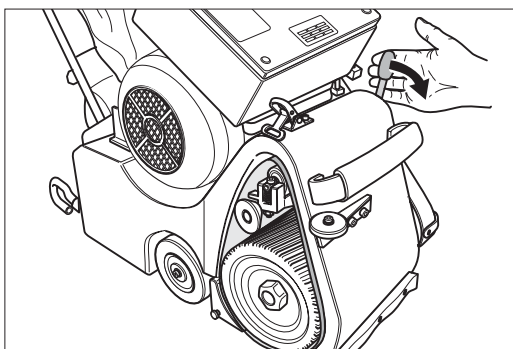

Fig. 10 Tension the sanding belt by lowering the tensioning lever.
- 11 To tension the sanding belt, press the tensioning lever downwards (Fig. 10).